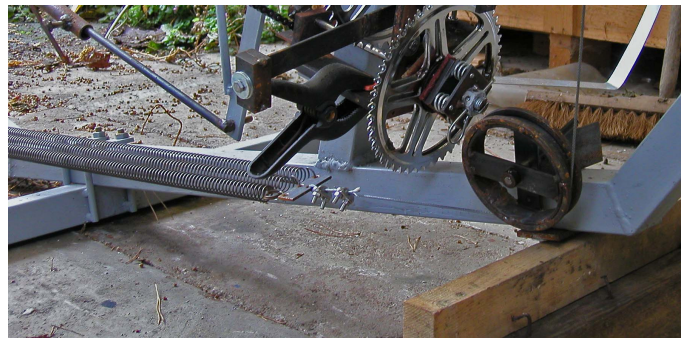

Fig. 27: Cable clamping and loose spring holder with additional spring
**Step 5** Fix the cable with two clamps to the hook of the spring channel. The other end of the cable goes through the 8 mm hole in S19 (loose spring holder). See Fig. 27